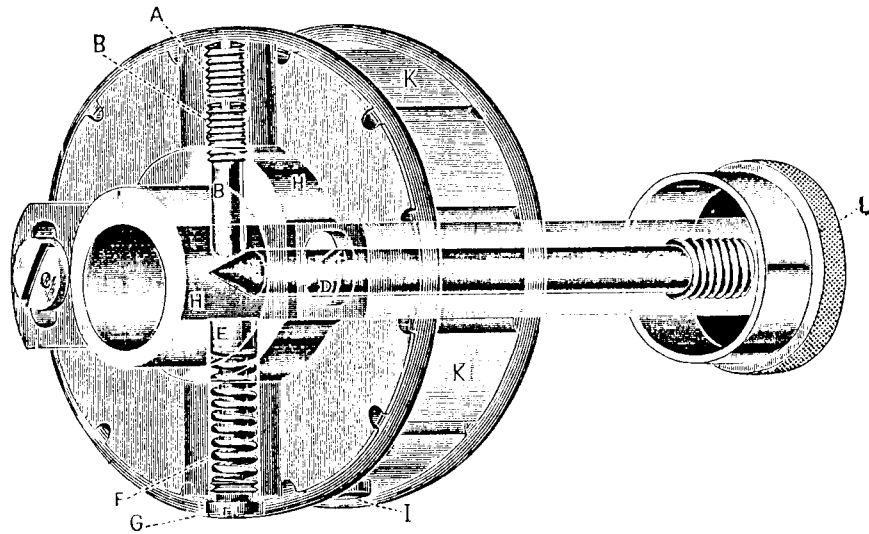

Fig. 10
To set the feed regulator so that a stitch longer than the one desired cannot be made.—Turn spindle head (L) (Fig. 10) inwardly and make the longest stitch possible; remove check screw (A) and turn screw (B) down until the machine places the desired number of stitches to the inch, then turn screw (A) down tightly on screw (B), as a check. The stitch may then be changed by turning spindle head (L) for a shorter stitch, but operators cannot make longer stitches than the limit that screw (B) is set to produce.
(See Fig. 10)